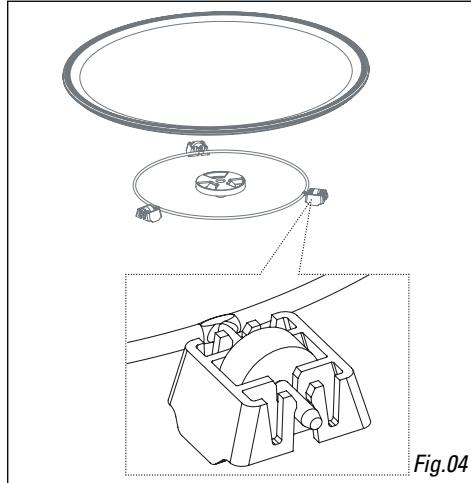

Fig.04
- **The driver:** causes the glass turntable to turn (Fig.04).
- **The base rollers:** Rollers must be positioned in the right direction (Fig.04).